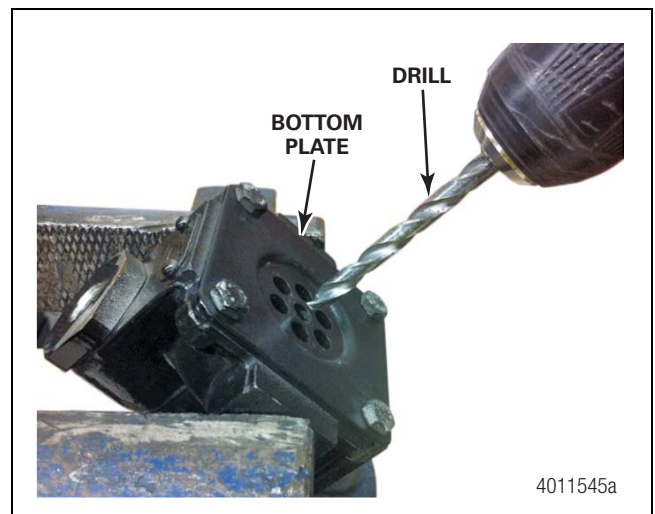
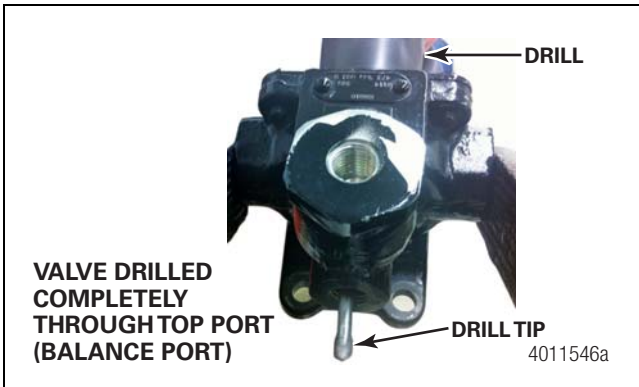

Figure 8
Figure 9
1. Using a minimum 1/4" drill bit, drill through the center hole of the bottom plate of the valve as shown in Figure 8. The drill should bottom out and cut through the valve balance port on the opposite end. Figure 9.